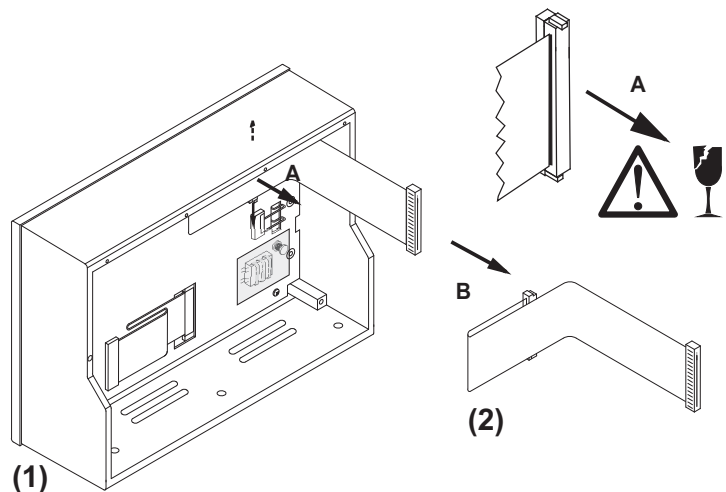

Fig. 8-6: Removal of the connecting flat cable from the display pcb
- Loose carefully the wide locker (right above on the display pcb) of the other side of the connecting flat cable. Avoid damage of the locker and the connecting flat cable because of canting. Store the cable with the discarded main pcb. (Fig. 8-6)